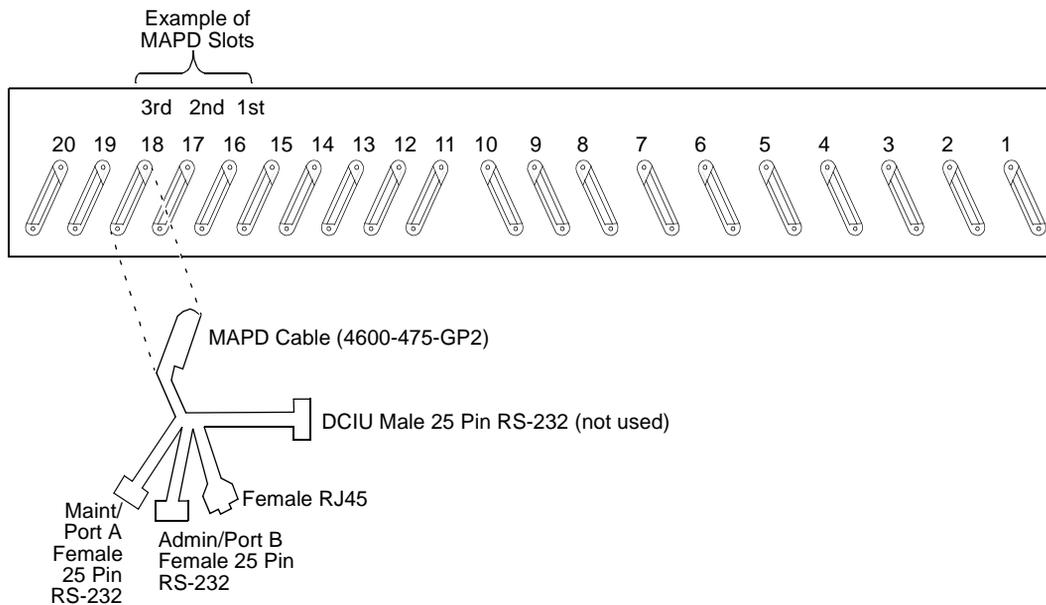
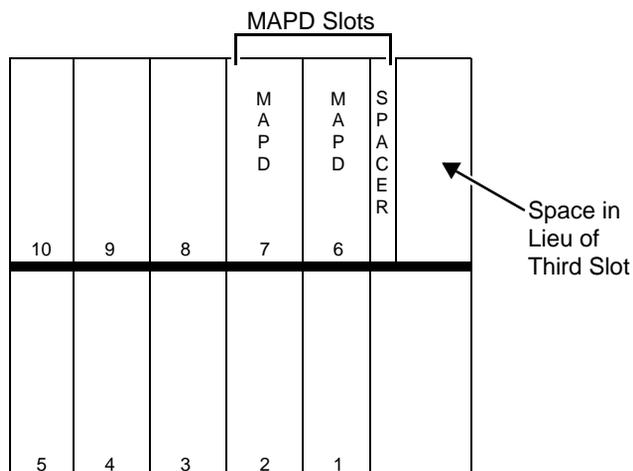

Figure 2-4. Connecting the Adapter Cable, Rear-Panel View of DEFINITY ECS system
Figure 2-5. Rear-Panel View of MAPD in DEFINITY ProLogix
The slots are numbered from left to right on the front panel of the switch cabinet, and from right to left on the rear panel as shown in Figure 2-4 for DEFINITY system, “Connecting the Adapter Cable, Rear-Panel View of DEFINITY ECS system,” and Figure 2-5 for ProLogix “Rear-Panel View of MAPD in DEFINITY ProLogix.” The three port slots are occupied by the MAPD system assembly as follows:
2. Referring back to Figure 2-4, "Connecting the Adapter Cable, Rear-Panel View of DEFINITY ECS system," and Figure 2-5, "Rear-Panel View of MAPD in ProLogix," the instructions that follow, connect the MAPD system assembly adapter cable to the port connector on the back of the switch.
5. Insert the system assembly (see Figure 2-4, "MAPD System Assembly \(J58890MA-1\)") into the switch cabinet as follows:
7. As the MAPD system comes up, watch the Liquid Crystal Display (LCD) on the faceplate (see Figure 2-5). The LCD identifies the MAPD states and alarms.